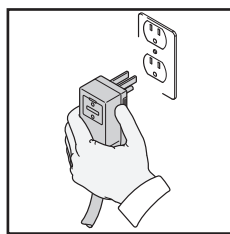

Fig. 16
- Unwind the power cord completely and plug the GFCI into a grounded 120 volt outlet. (Fig. 16).